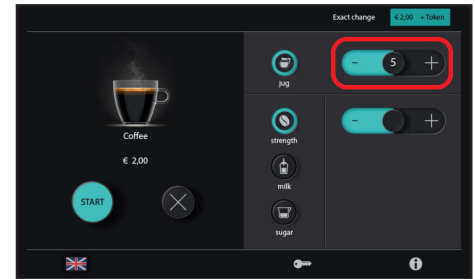

Figure 22.
7. Activate the jug function by pressing the button (see Figure 15, button 5). Now choose the quantity by dragging the bar (see Figure 22).